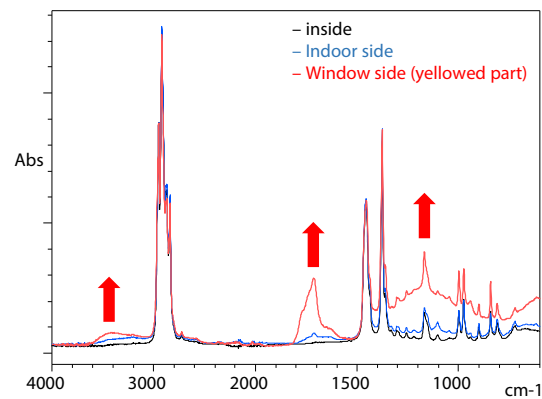
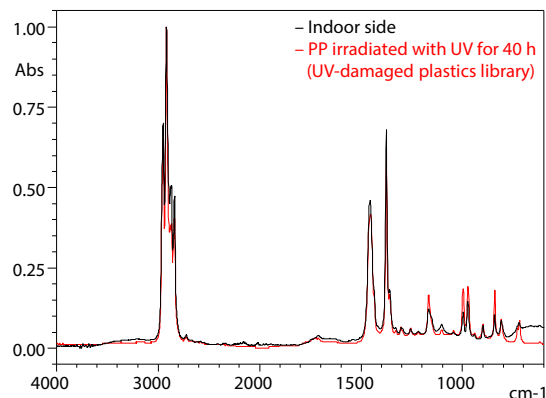
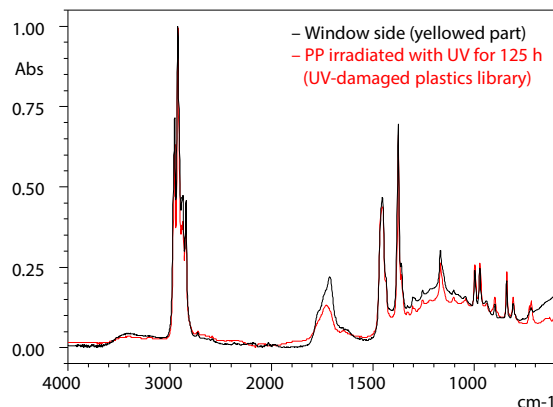

Fig. 4 Measurement Results of Sample by Plastic Analyzer
Fig. 5 Search Result (Indoor Side)
Fig. 6 Search Result (Window Side)
Fig. 4 shows an overlay of the IR spectra measurement results obtained by Plastic Analyzer. According to the UV-damaged plastics library, the inside of the plastic part on a blind is considered to be polypropylene (PP) which has not been exposed to UV radiation. The indoor side of the sample showed a spectrum similar to that of PP irradiated with UV for 40 hours (Fig. 5), and the window side (yellowed part) showed a spectrum similar to that of PP irradiated with UV for 125 hours (Fig. 6).